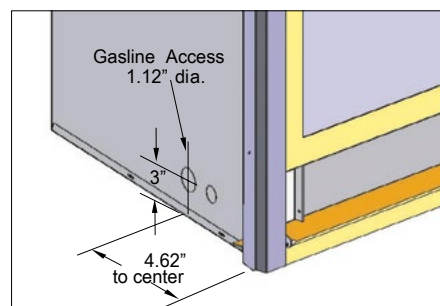

Figure 5. Gas Inlet Supply location
- See Figure 5 for location of gas line access.